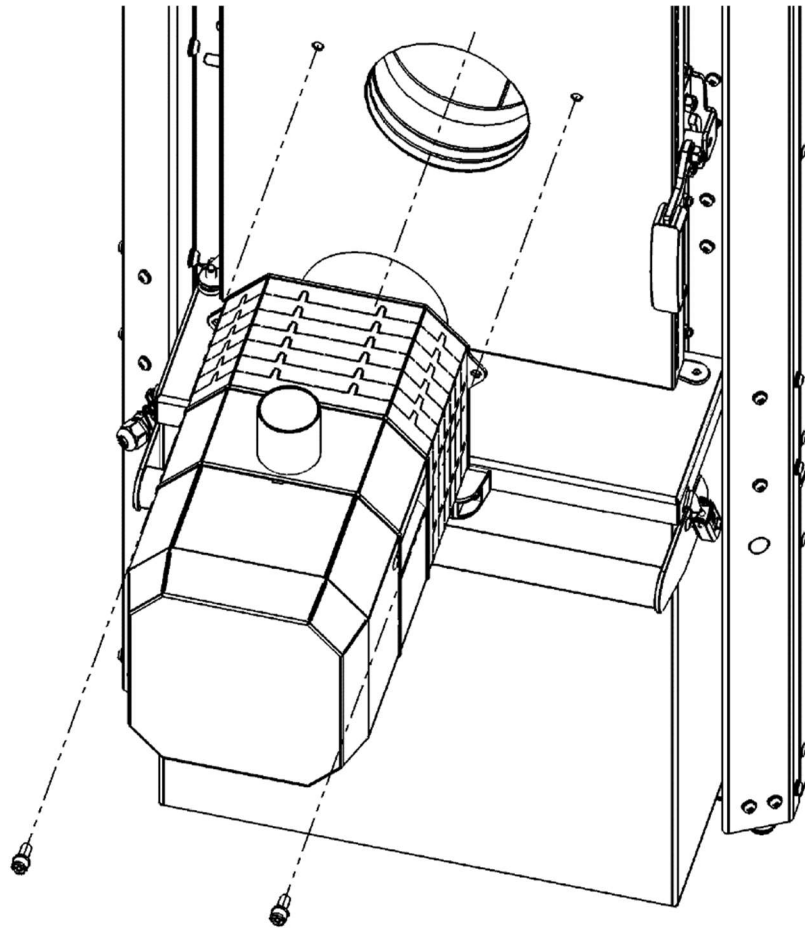

Fig. 8. Instructions for mounting the burner to the heater.
3. Installing the burner. Work related to the possible assembly of the burner is limited to fix the burner with screws to the door of the heater (fig. 8).